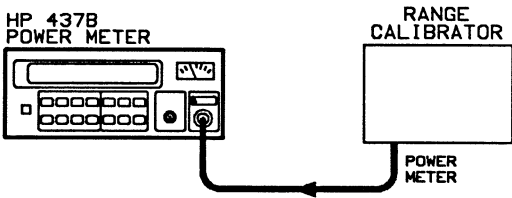

Figure 4-2. Instrument Accuracy Test Setup
1. Connect the equipment as shown in Figure 4-2.